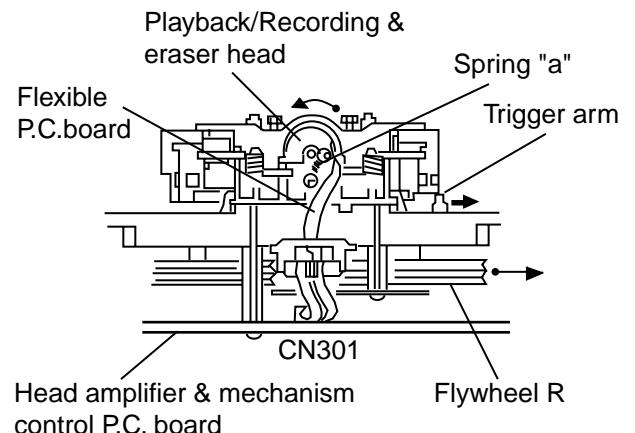
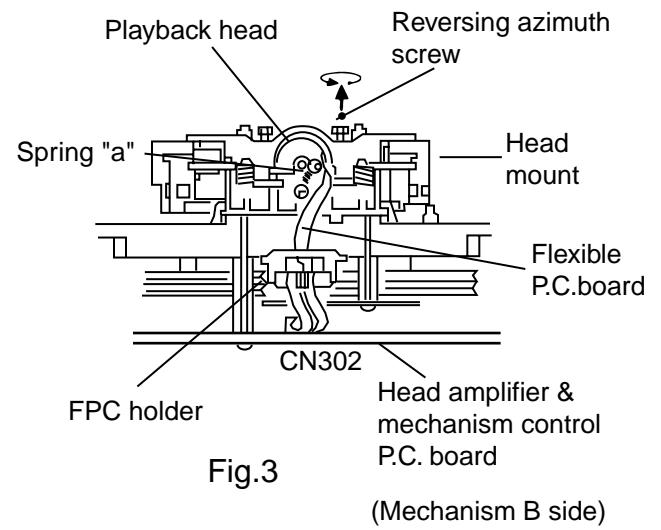

Fig.2 (Mechanism A side)
Fig.3
2. When the flywheel R is rotated in counterclockwise direction, the playback head will be turned in counterclockwise direction from the position in Fig.2 to that in Fig.3.
### ● Reassembling the playback, recording and eraser heads (See Fig.2,3)
1. Reassemble the playback head from the front of the head mount to the position as shown in Fig.3.
4. Attach the flexible P.C.board to the chassis base, and fix it with the FPC holder as shown in Fig.3.